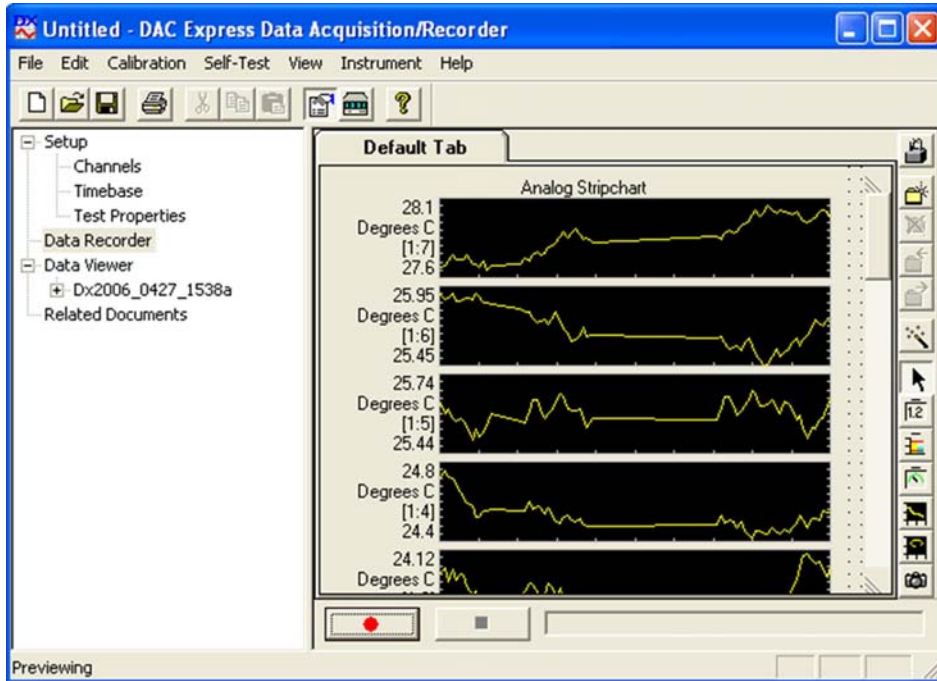

FIGURE 3-14: DATA DISPLAY
- 6) The selected display type will now be shown with the data (see Figure 3-14).